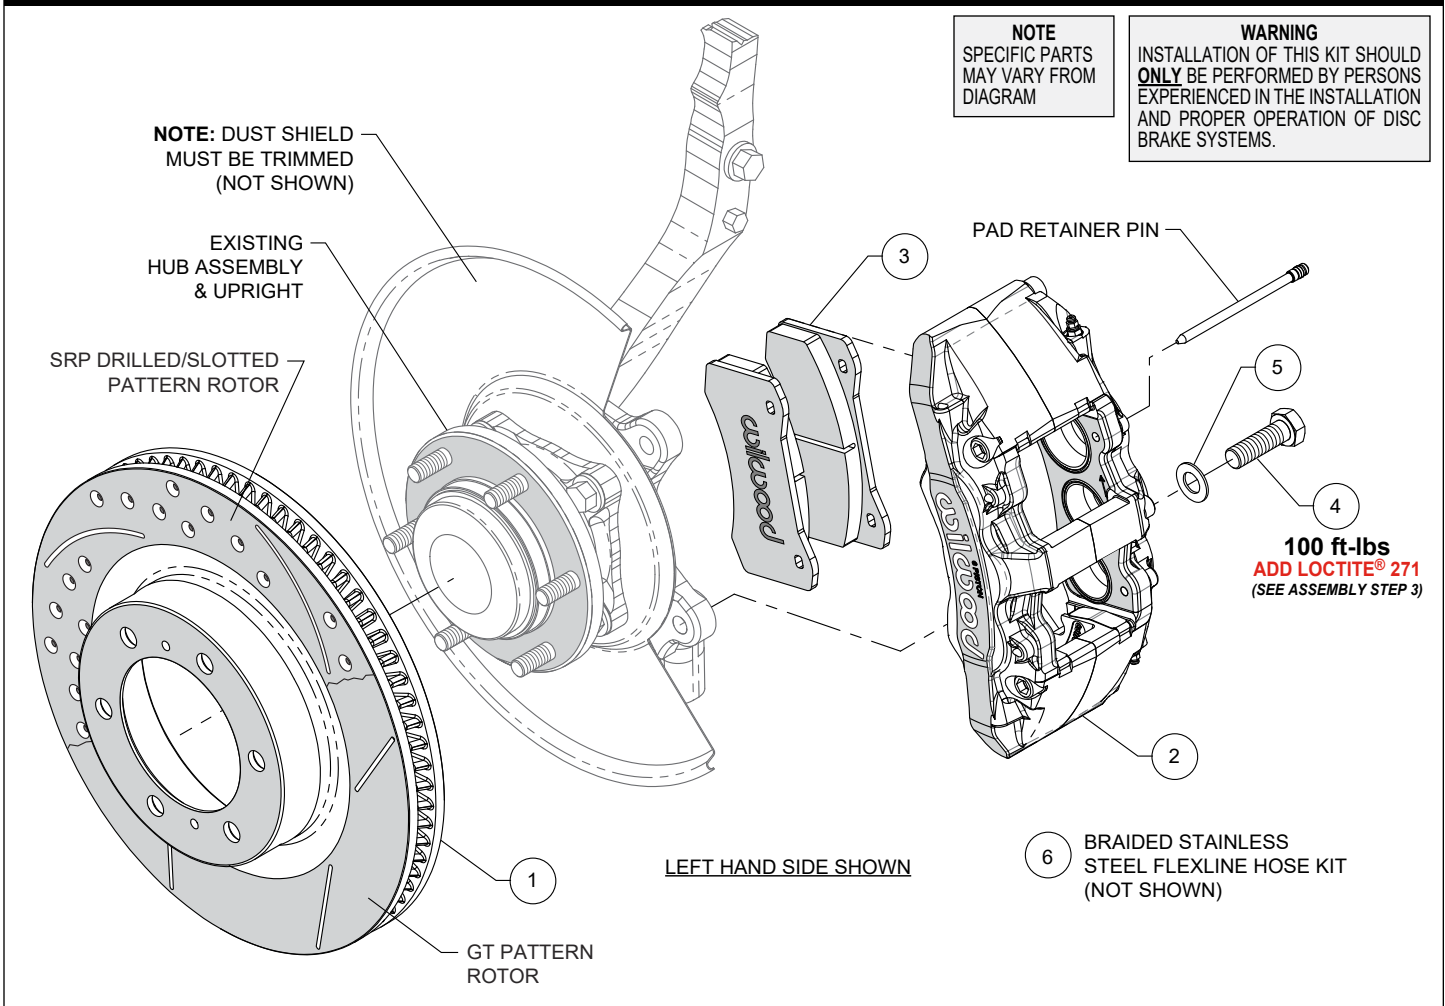

Figure 1. Typical Installation Configuration
Numbers in parenthesis refer to the parts list and Figure 1 on the preceding pages.
STEP 1 Slide the rotor (1) onto the hub. **NOTE:** The rotor must fit flush against the hub flange or excessive rotor run out may result. Install three lug nuts (finger tight) to keep the rotor in place while continuing with the installation, Photo 1.
STEP 2 Remove the two pad retaining pins from the caliper (2), Figure 1. Insert the brake pads (3) into the caliper, with the friction material facing the rotor, as shown in Photo 2. Secure the brake pads in place with the pad retaining pins, Photo 3 and Figure 1.
STEP 3 **NOTE:** This kit contains distinct right and left hand calipers that must be mounted in a specific direction, as described below. Ensure that the caliper is mounted so the largest pistons are at the rotor exit end of the caliper, in relation to the forward direction of the rotor. Mount the caliper (2) onto the OEM caliper mounting bosses of upright using bolts (4) and washers (5), as shown in Figure 1. Apply red Loctite® 271 to bolt threads, and torque to value shown in Figure 1.
STEP 5 Attach brake line to caliper. **NOTE:** OEM rubber brake hoses generally cannot be adapted to Wilwood calipers. Install Wilwood's braided stainless steel flexline hose kit (6) that is included with this kit. The caliper inlet fitting is a 1/8-27 NPT. Use the